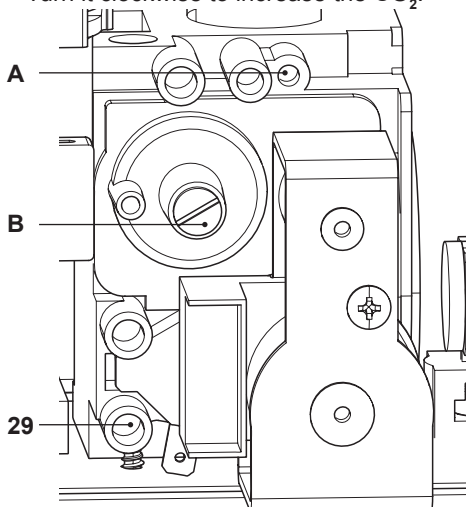

Figure 7.8
- With the boiler turned off (not in service), check the supply pressure using the tapping point 29 in Figure 7.8 and compare the value read with those shown in the gas supply pressure table in section "Technical data M270V.2025 SM" on page 22 and "Technical data M270V.2530 SM" on page 26.
- Fully close the tapping point 29 in Figure 7.8.
- To calibrate the boiler  $\text{CO}_2$  (gas pressure at the burner) unscrew the protective brass cap B completely and turn the underlying Ø 4 mm Allen screw Figure 7.8. Turn it clockwise to increase the  $\text{CO}_2$ .
- If the two values do not coincide, turn the RQ maximum adjustment screw (A in Figure 7.8) for the gas valve and calibrate the **CO2** to the same value specified in the section “Technical data M270V.2025 SM” on page 22 and “Technical data M270V.2530 SM” on page 26. Turn it clockwise to decrease the **CO2**.